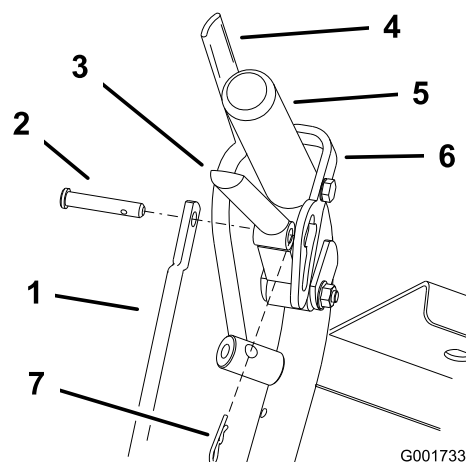

Figure 52
1. Adjust the rod length by releasing the drive lever and removing the hairpin cotter pin and clevis pin. Rotate the rod in the rod fitting (Figure 52).
4. Place the clevis pin into the drive lever (Figure 52).
6. Install the hairpin cotter pin between the drive levers and the neutral locks and into the clevis pins (Figure 52).